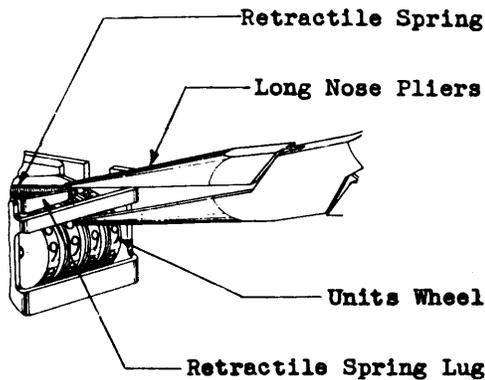

Fig. 18 – Method of Adjusting Retractable Spring Lug Downward
(3) To force the lug downward, place the long nose pliers over the lug and the lower side of the cyclometer frame cross piece as shown in Fig. 18 and compress the pliers.